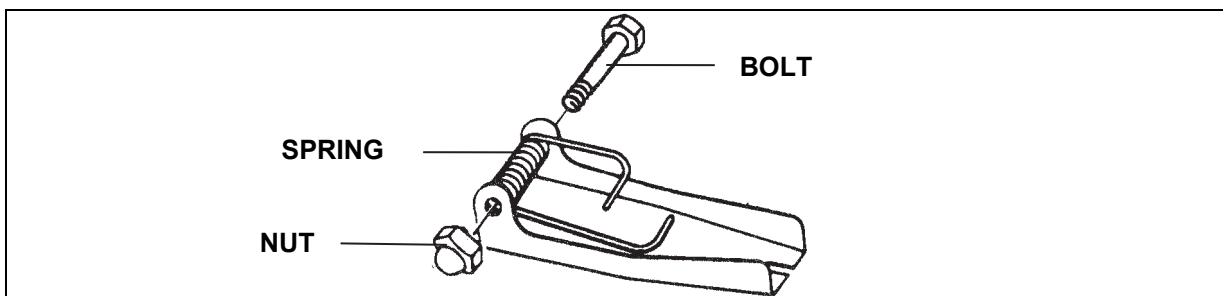

Figure 6-19. Spring-Keeper Assembly
- Tilt the grabhook and remove the spring and keeper (figure 6-19).